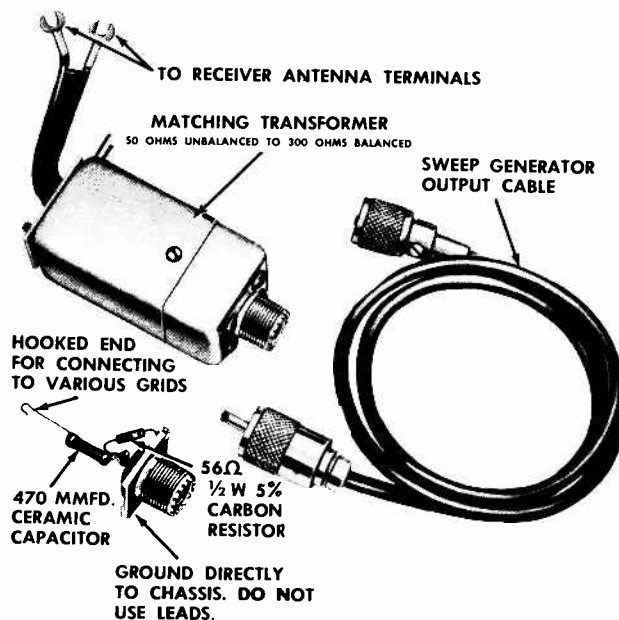
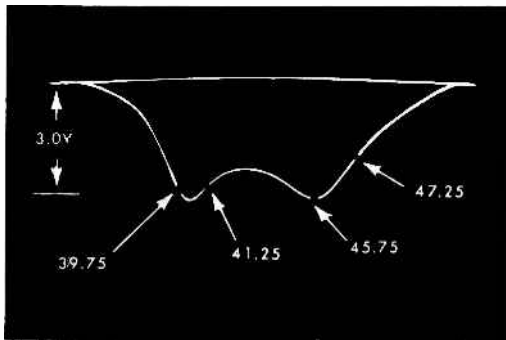

Fig. 5 IF-RF Alignment Fixtures
Fig. 6. 4th IF Response
3. Feed the sweep generator through the special terminating network shown in Fig. 5 to point 'G' (Pin 1 of the 3rd IF). Adjust generator to obtain a response similar to Fig. 6 with a detector output of 3 volts peak to peak. Do not exceed this level during any of the adjustments.
4. Set the marker generator to 45.75 Mc and alternately adjust the top and bottom cores of the 4th IF for maximum gain and symmetry with the 45.75 Mc marker positioned as shown in Fig. 6. The 39.75 Mc